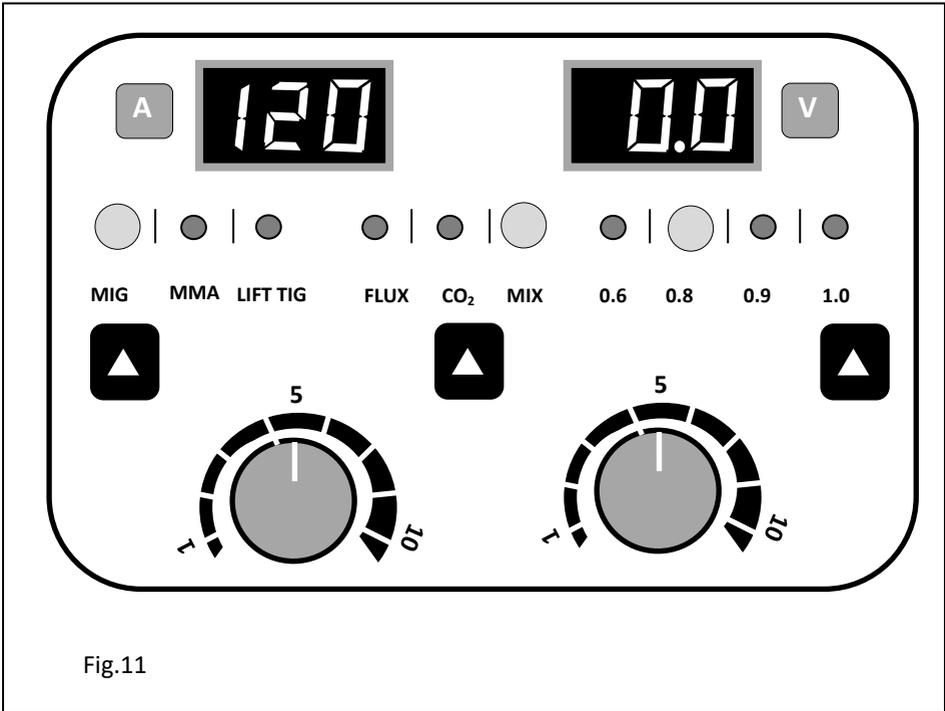

Fig.11
EXAMPLE: Fig11
- **See figure.11 Page 29**